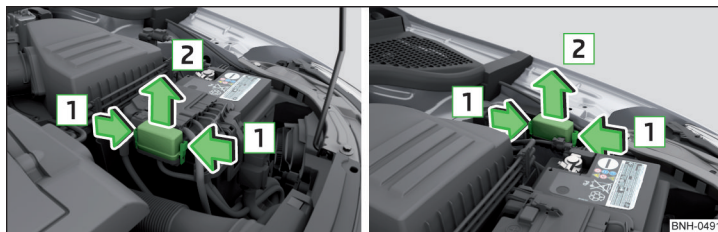

Fig. 151 Vehicle battery: Cover for the fuse box - variant 1 / variant 2
- Press together the interlocks of the cover simultaneously in the direction of the arrow **1** » Fig. 151.